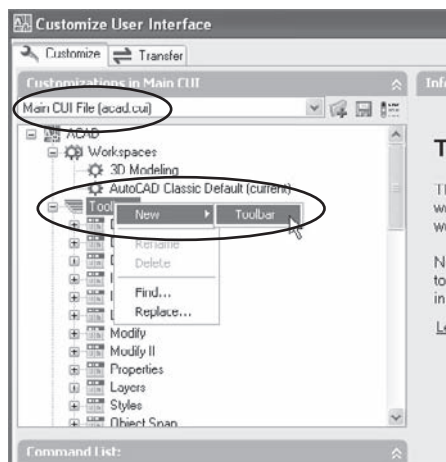

Figure 3.14
2. Select Main CUI File (`acad.cui`) in the top pane. (See Figure 3.14.)